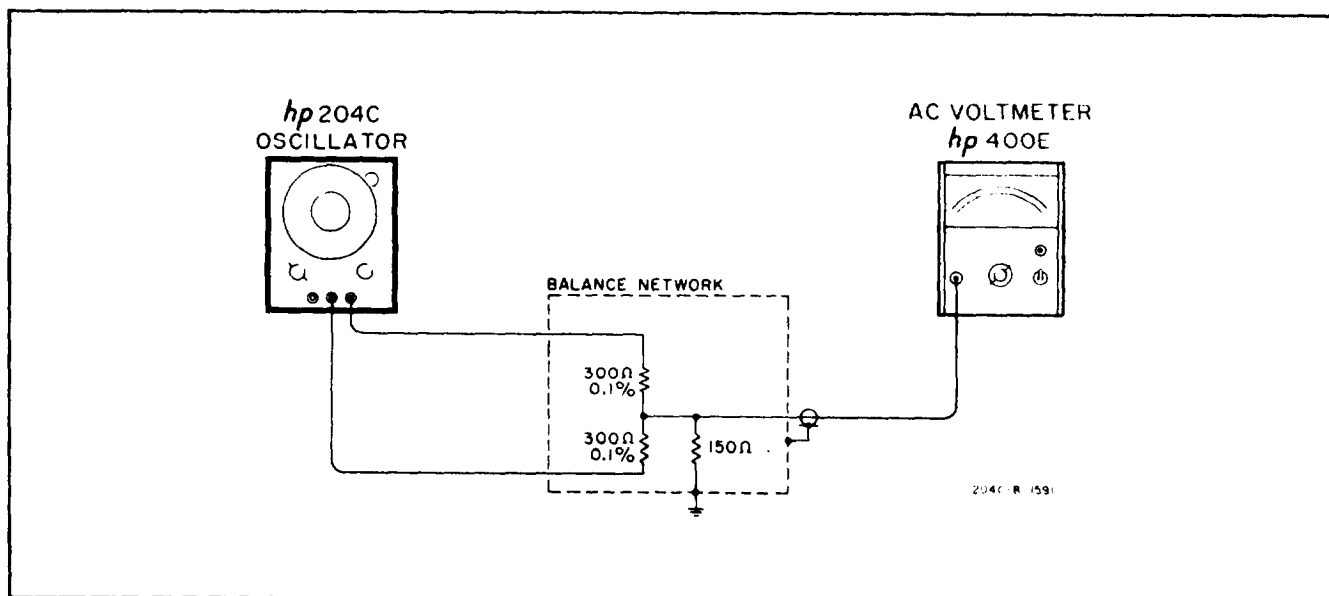

Figure 5-5. Balance Check
- d. Remove the 600 ohm load and connect the equipment as shown in Figure 5-5.